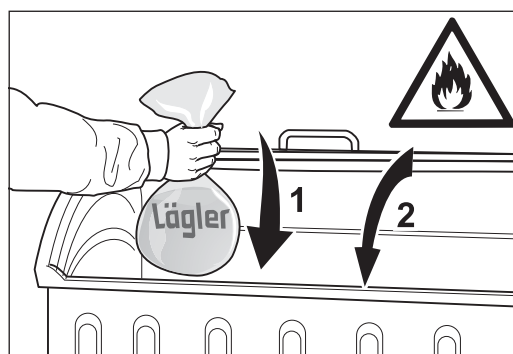

Fig. 44 Place the filled dust bag into a **non-combustible container** (1) and keep this closed (2) → **risk of fire!**
- **The dust bag must always be removed from the machine directly after sanding (fig. 44, 1)!** Place the sealed dust bag in a non-combustible container!
- **Cover this container with a non-combustible cover (fig. 44, 2)!**
- 7 In order to preclude any damages by fire or explosion, throw the sealed dust bag in a non-combustible container (fig. 44, 1)! Cover this container with a non-combustible cover (fig. 44, 2)!